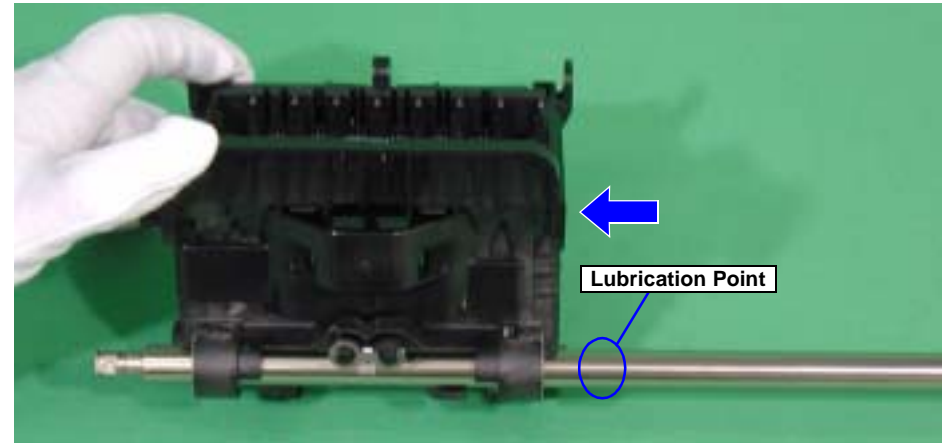

Figure 6-17. Lubricating the Carriage Shaft (4)
6. Lubricate grease with the syringe at the point shown in Figure 6-17.